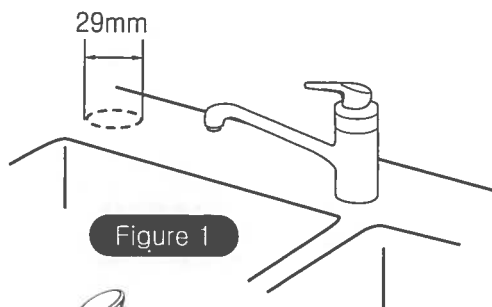
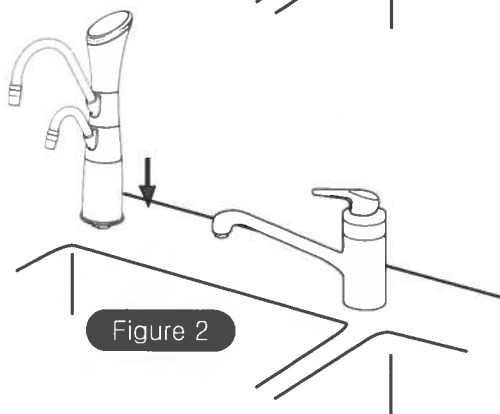

Figure 1
Figure 2
- Taking hold of the filter securely with your right hand, press the filter firmly down against the spring loaded mechanism (figure1) to disengage the top of the filter and then pull it toward you (figure2) and up to remove it.